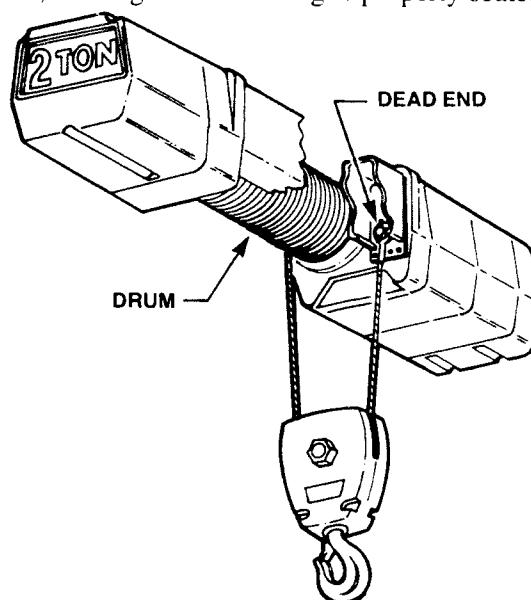

FIGURE 4-3A. WIRE ROPE REEVING
4.9 1 & 2-TON HOISTS, STANDARD HEADROOM MODELS: Refer to Figure 4-3A for parts identification and proper cable reeving.
m. Reassemble the load block onto the new wire rope. See Figure 7-9A for aid in reassembly. Refer to Figure 4-3A to make sure that the rope is reeved correctly.